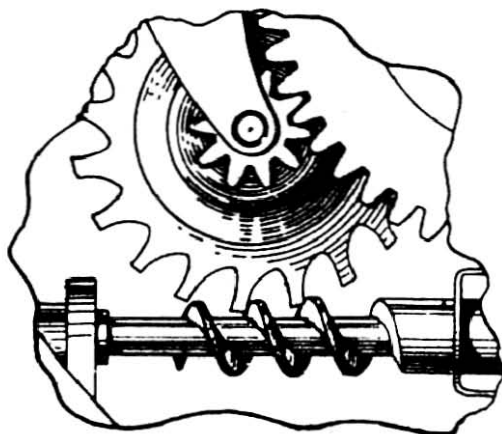

FIG.8 SETTING OF THE GOVERNOR GEAR
- .1 The governor gear should be adjusted as shown in Fig 8. To test the running of the governor gear and governor, replace the main gear wheel assembly temporarily, and revolve the finger plate a few times; if the governor gear engages the governor worm too deeply, vibration will occur.